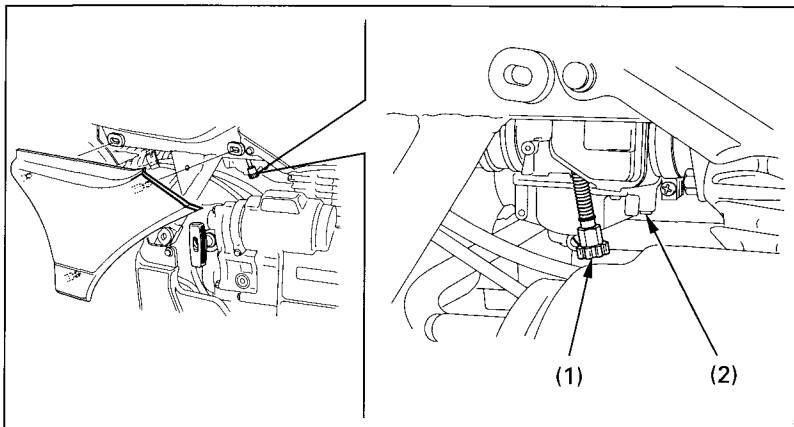

Fig. 4-9 (1) Throttle stop screw
Before adjusting the idle speed and air-fuel mixture, unsnap the right side cover. (Fig4-9)
2. Adjust idle speed and turning the throttle stop screw (Fig. 4-9).